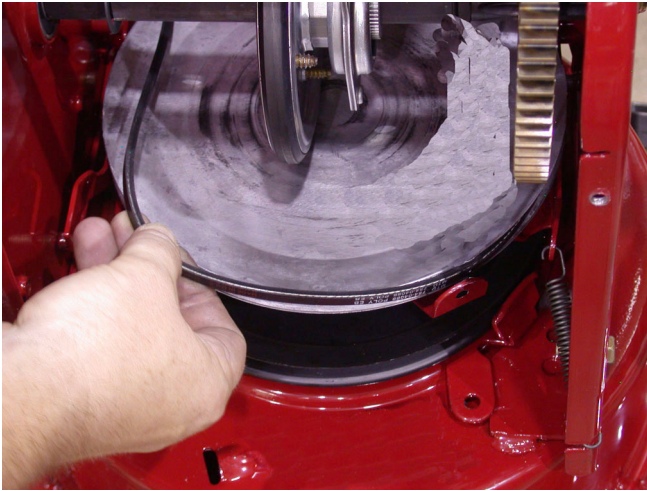

Figure 4.4
- 4.4. Work the belt off the bottom of the drive plate by rolling it between the drive disc and drive plate. See Figure 4.4.